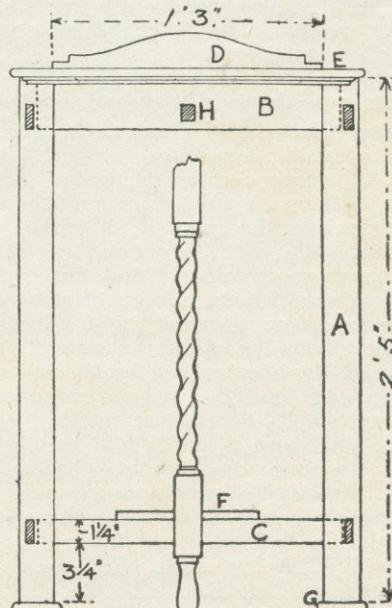

Fig. 1—Front elevation with dimensions
The main back frame of the stand should first be made. A glance at Fig. 1 shows its proportions and the four rails which make it up. The two side rails (A) are cut square to length and sinkings formed at the tops and near the bottoms to the
measurements given in Fig. 1. The detail at Fig. 2 shows a back view of one rail with the top rail (B) cut ready for gluing and screwing into it. The width of the halving should be 1in., which allows ample space for the insertion of two countersunk screws.
In each upright (A) there will also be cut two open slots or mortises to receive the ends of the curved rails. The proper positions for these slots are clearly shown in Fig. 1. The slots measure 1¼ins. by ½in.
The ends of this require shaping to the profile as in Fig. 1. The pediment rail (D) is cut to the simple shape shown with the fretsaw and is glued on and screwed with countersunk screws at the ends after the stand itself has been further completed.